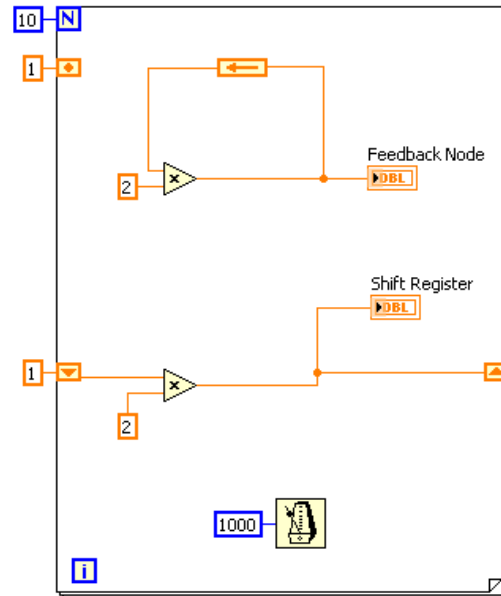

Figure 4.17
3. Replace the bottom **Feedback Node** with a **shift register**, as shown in Figure 4.17.